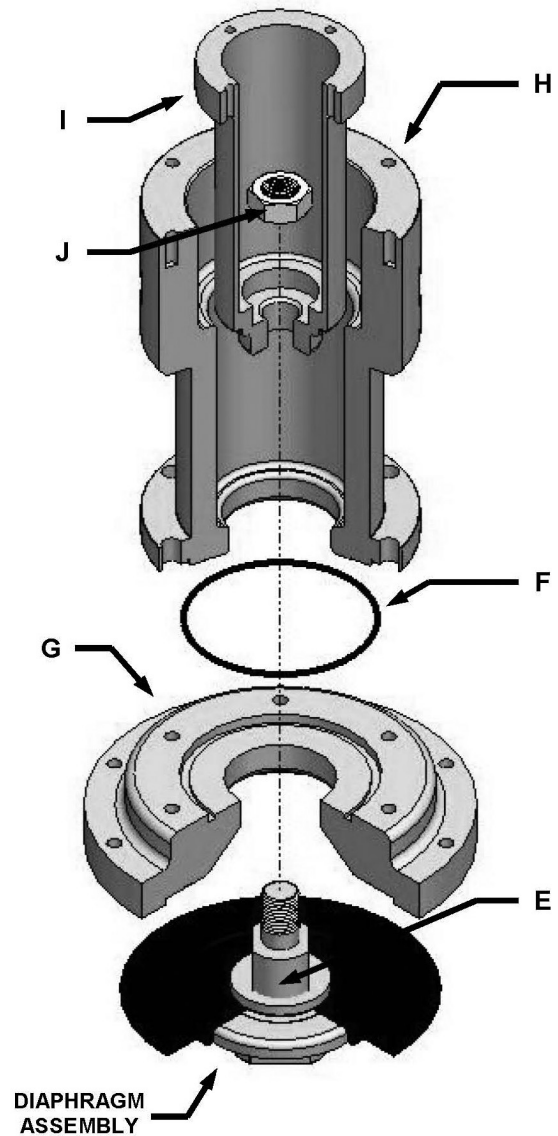

Figure 2: Fastening the thread extension
Insert – 145 O-ring (F) into the cartridge spacer (G). Place the cartridge spacer (G) between the diaphragm assembly and spring chamber (H) as shown in Figure 2. Slide the inner tube (I) through the spring chamber (H). Attach the thread extension (E) to the inner tube (I) using 1/2-20 SS jam nut (J). Torque the jam nut (J) to 100-110 in.-lbs.